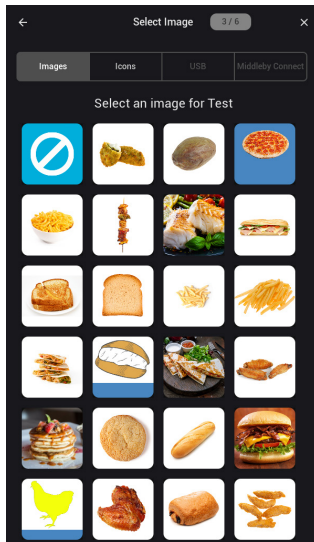

Figure 27: Select Image for New Recipe
5. Select an image and touch the blue “Next” button (Figure 27, below).